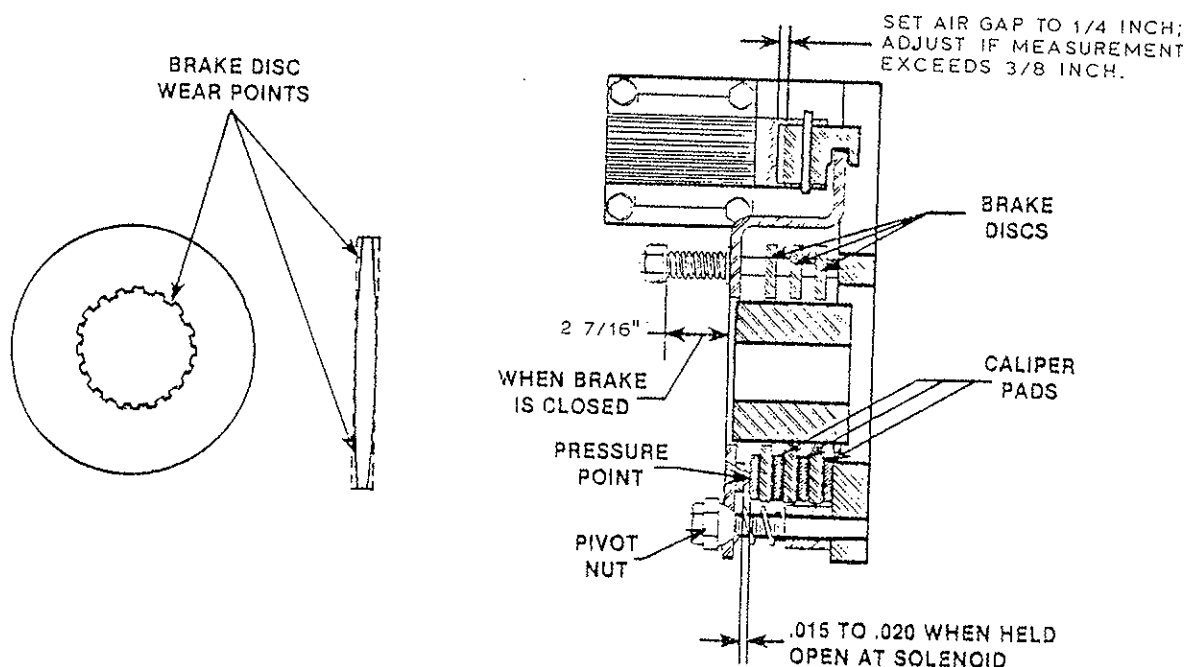

Figure 3
4. **Hoist Brake** - Check for excessive or uneven wear of the discs and caliper pads, and excessive play between the splines in the discs and the brake hub. Clean the solenoid plunger seat and check for uneven seating between the plunger and the coil. Manually hold the brake open and check adjustment as shown in Fig. 3.